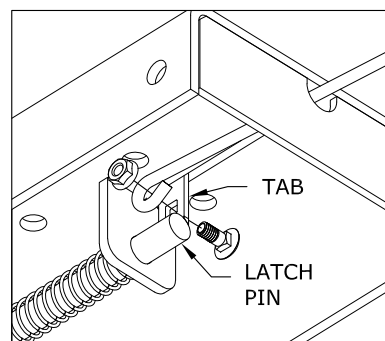

Figure E2: Handle Installation
2. Secure the handle to the pin with the 5/16" X 3/4" carriage bolt and 5/16" locking flange, see Figure E2. Note: The included 5/16" cap screw can replace the carriage bolt if wrench access on the "cab side" of the handle is limited. Tighten the nut until it is secure. Do not over-tighten and deform the handle eyelet.